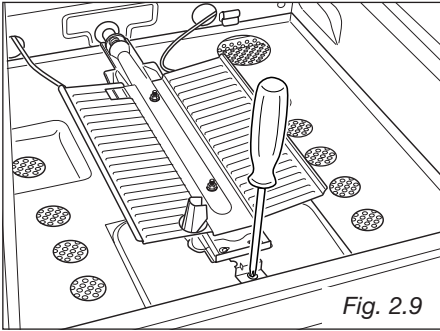

Fig. 2.9
- Remove the burner securing screw (fig. 2.9).